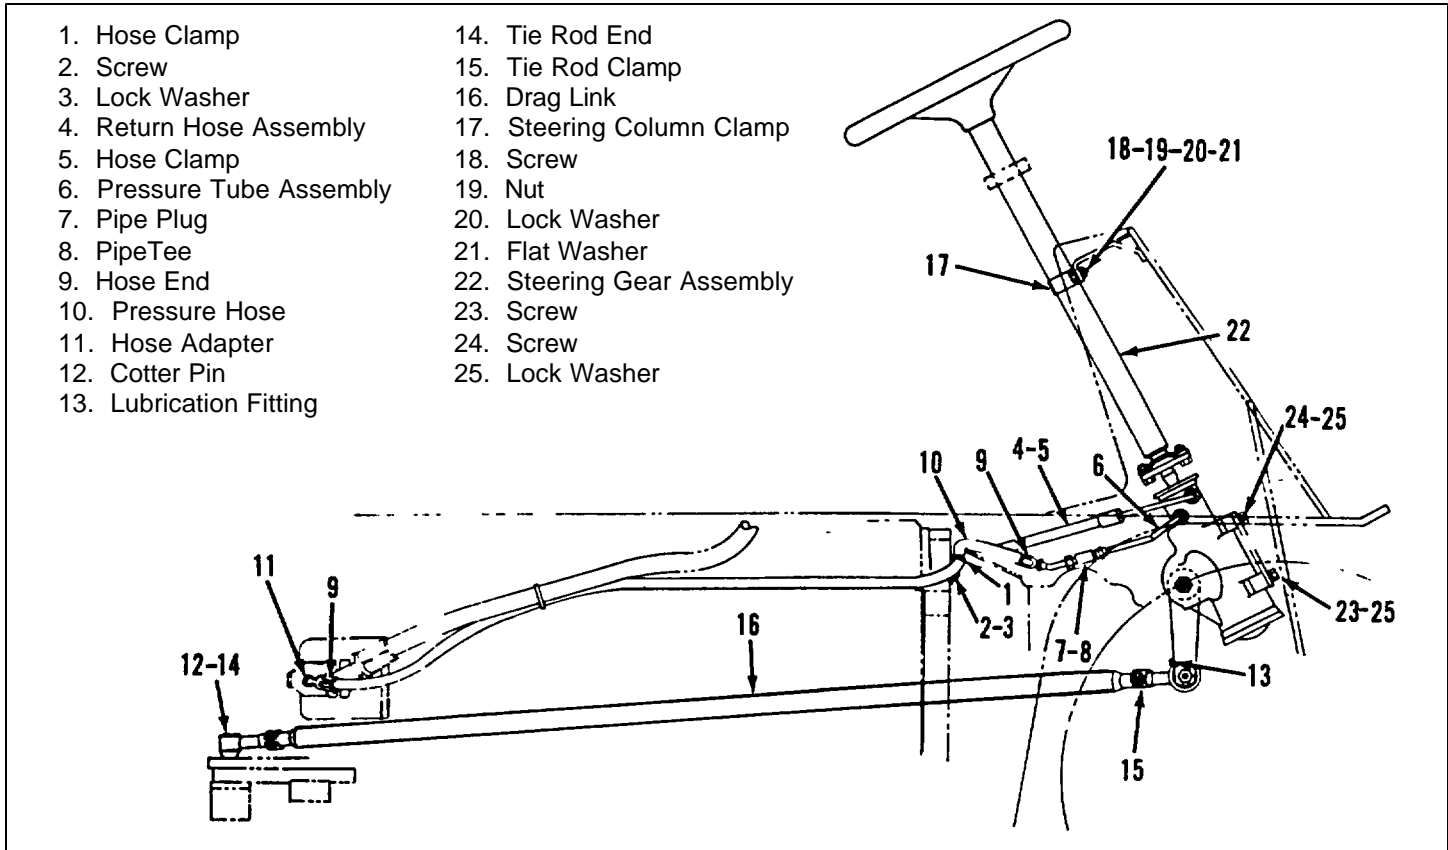
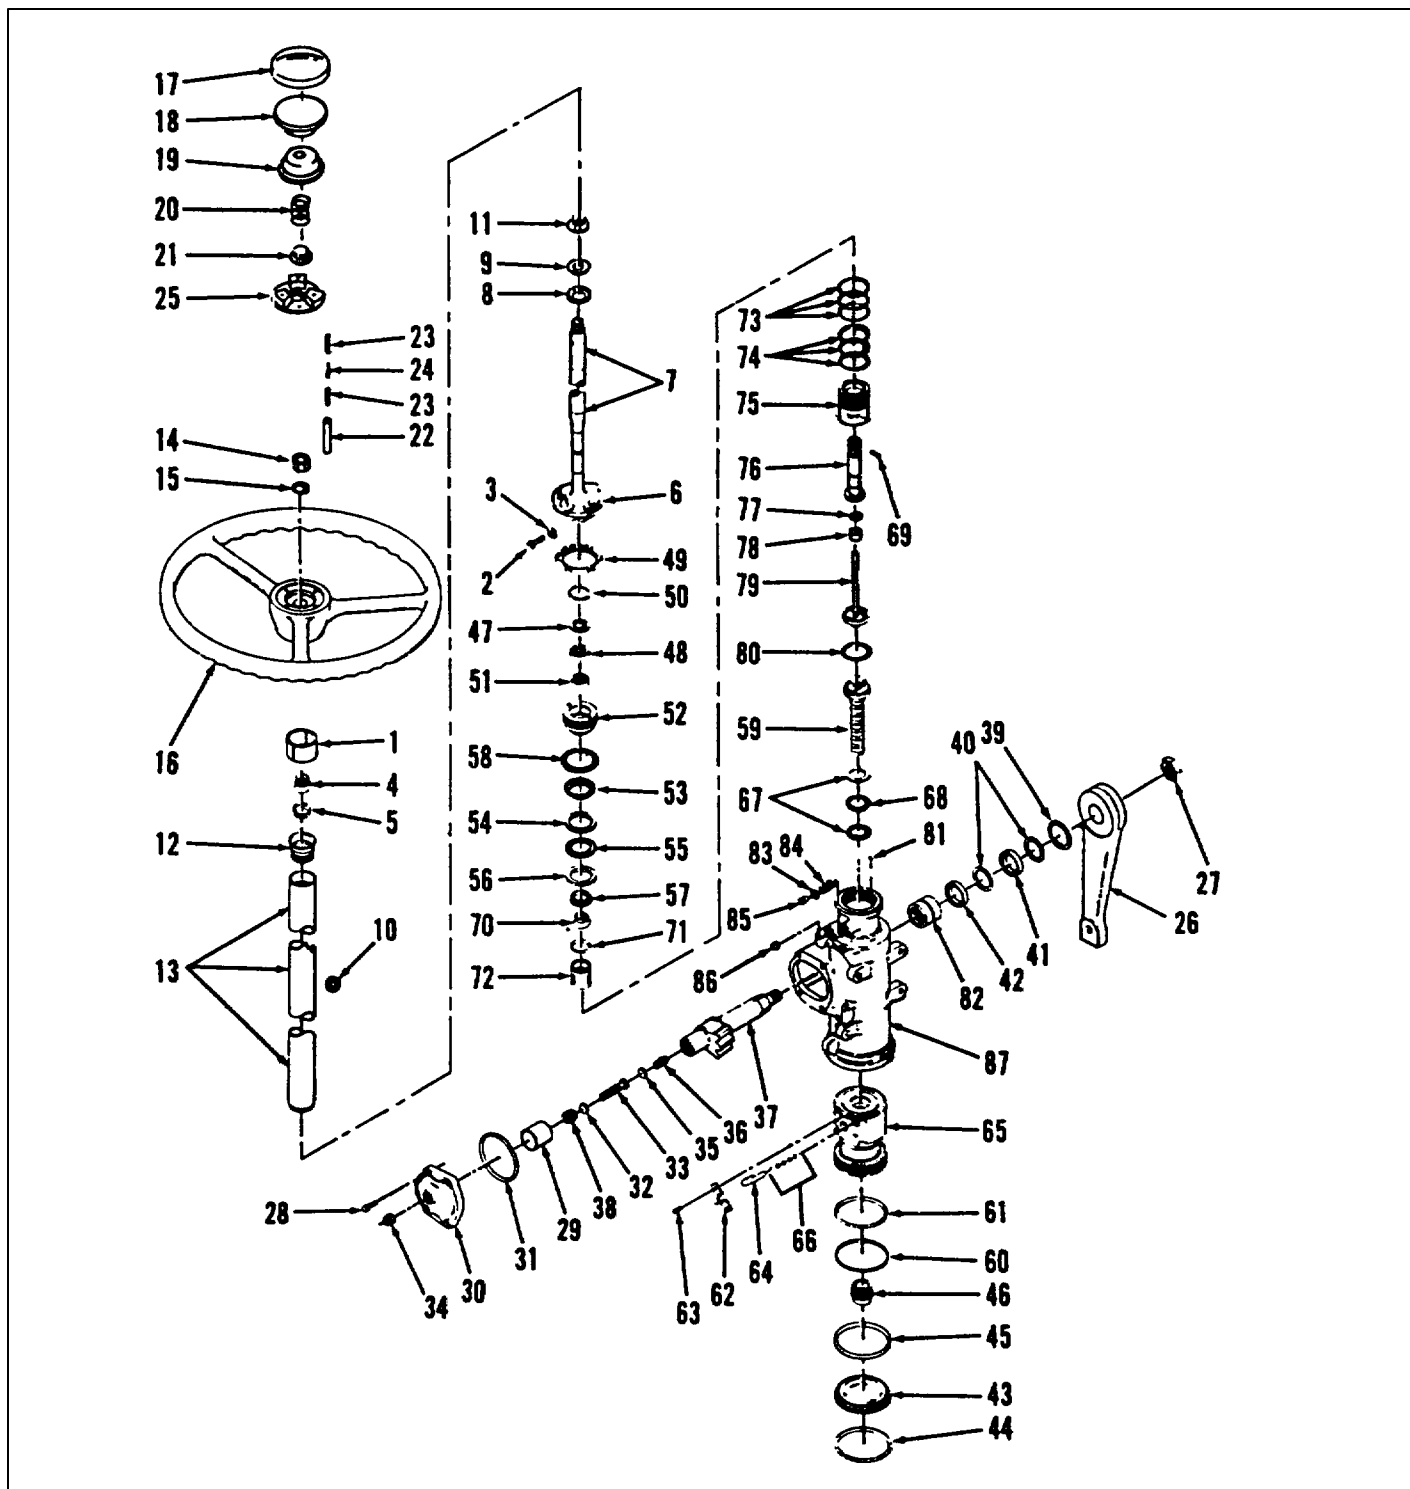
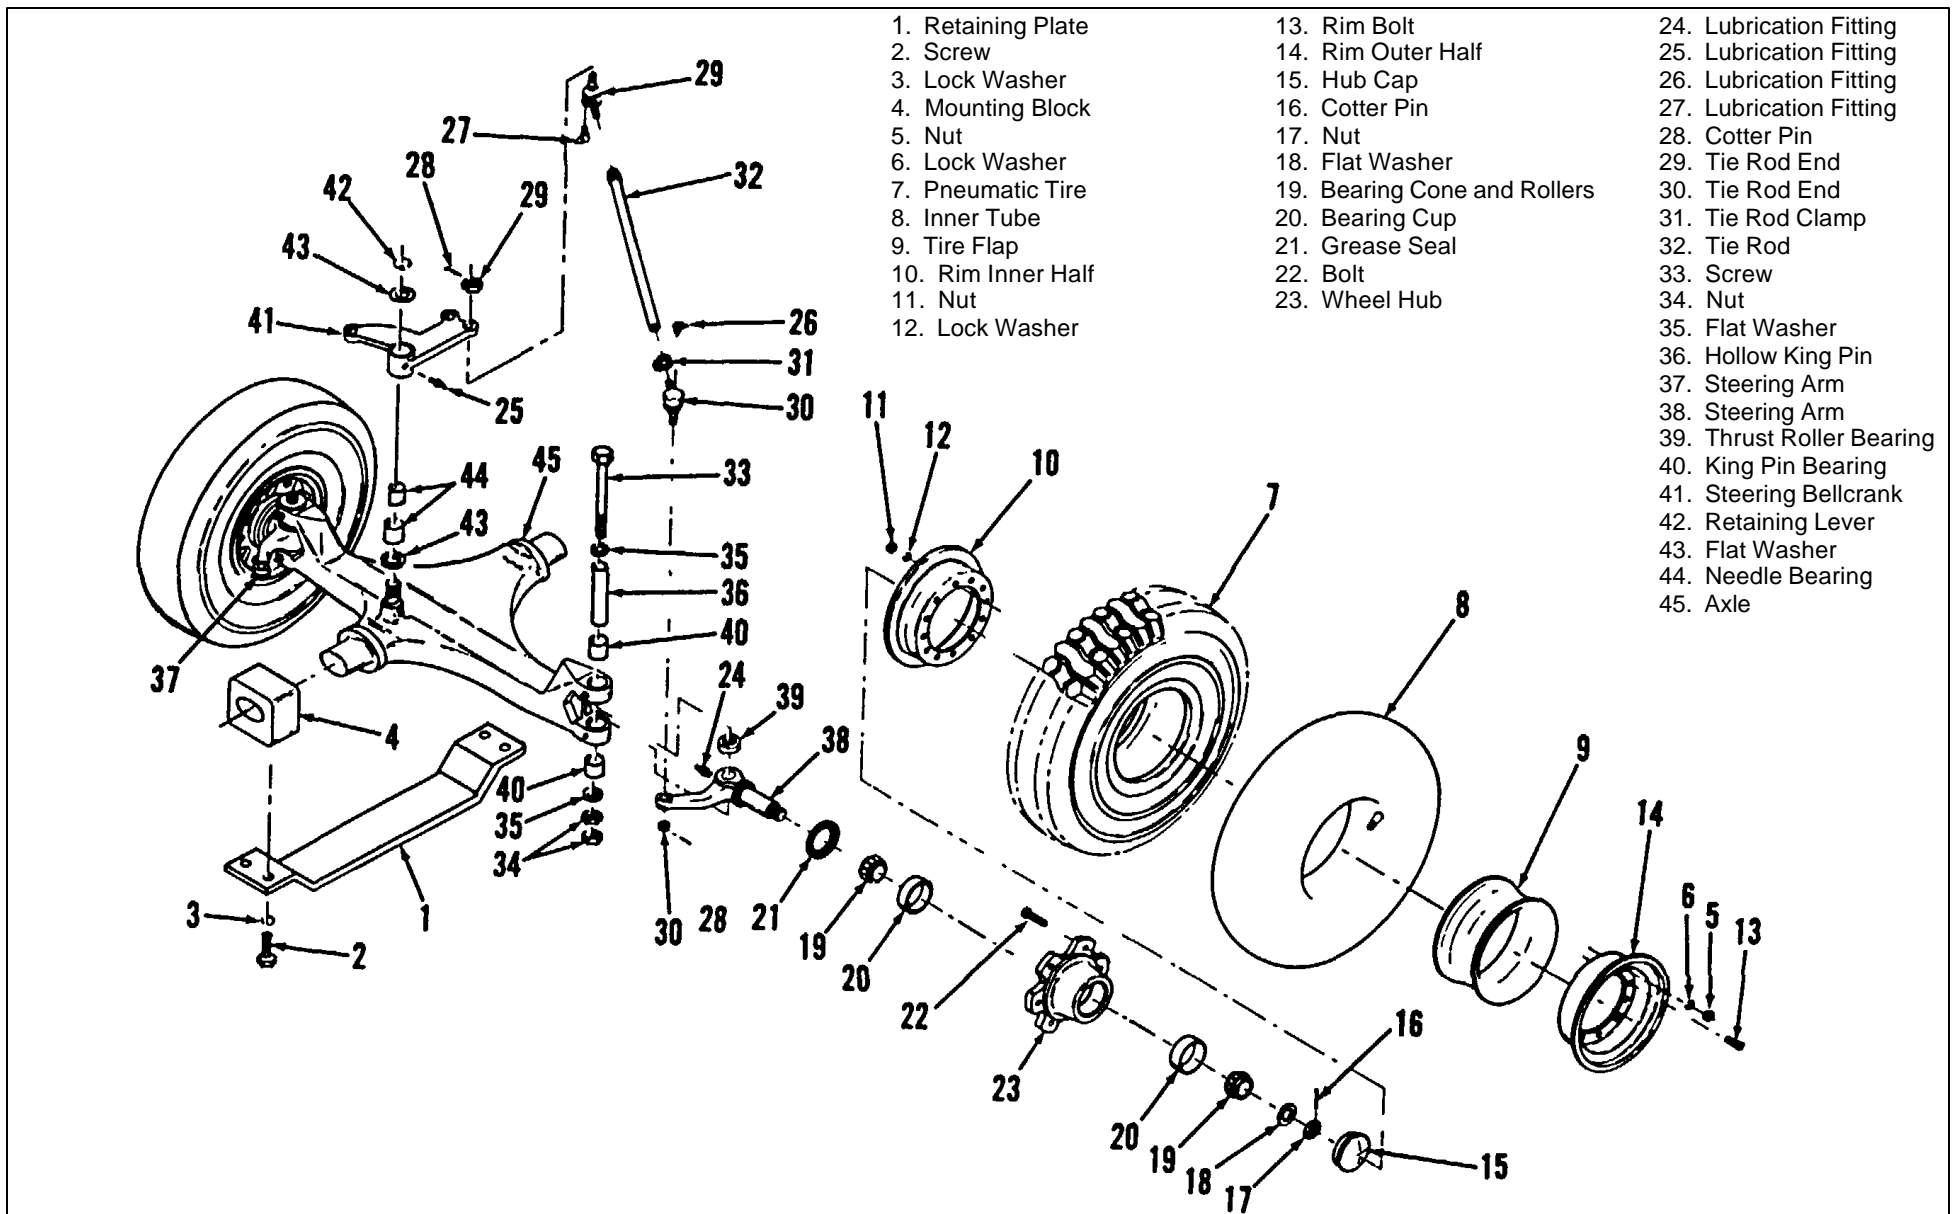

Figure 4-31. Power Steering Arrangement
Figure 4-32. Power Steering Gear Assembly, Exploded View
Figure 4-33. Rear Steering Axle Assembly, Exploded View
2. Loosen capscrew (2, figure 4-32) securing steering column flexible coupling (6).
5. Remove steering column bracket clamp (17, figure 4-31) and remove steering column (22).
1. Assemble steering column flexible coupling (6, figure 4-32) to splined end of the steering gear. Tighten clamp capscrew (2).
2. Holding steering column (22, figure 4-31) in place, assemble bracket clamp (17) with previously removed attaching parts.
3. Remove nut securing drag link ball joint to steering lever (26, figure 4-32); and, with suitable tool, press ball stud from lever. The ball stud is tapered, thereby requiring a tool to facilitate separation.
4. Remove capscrews (23 and 24, figure 4-31) and lockwashers (25) attaching steering gear to chassis. Remove gear to clean area.
Key to Figure 4-32
4-116. REMOVAL. Remove floor plate (paragraph 4-19) and remove nut securing drag link (16, figure 4-31) to the steering lever (26, figure 4-32). Remove nut securing drag link (16, figure 4-31) to steering axle bellcrank (41, figure 4-33). Press ball joint studs from respective lever and bellcrank and remove drag link.
1. Loosen clamp (15, figure 4-31) at each end of drag link (16).
2. Remove capscrews (2, figure 4-33) lockwashers (3) and remove axle insulator block bracket (1).
Do not remove bearing cups (20, figure 4-33) from the wheel (23) or bushing (40) from the axle (45) unless inspection indicates need for replacement.
1. Pry hub cap (15) from wheel (23). Remove cotter pin (16), nut (17) and washer (18) from axle spindle (37 and 38).
2. Withdraw wheel (23) from spindle using care not to damage seal (21).
3. Remove four cotter pins and nuts securing tie rod ends (29-30). Using suitable tool, separate taper ball studs from axle spindles and steering bellcrank (41).
4. Remove retaining ring (42) and washer (43) from axle beam (45). Lift bellcrank (41) front pivot post.
5. Remove double nuts (34), washers (35) and capscrew (33) from king pin (36). Press king pin from spindle (37 and 38).
6. Remove spindle (37 and 38) and thrust washer (39) from axle beam (45).
7. Disassemble tie rods (32) in a similar manner as the drag link. See paragraph 4-117.
8. Remove insulating mounting blocks (4) from the axle beam (45).